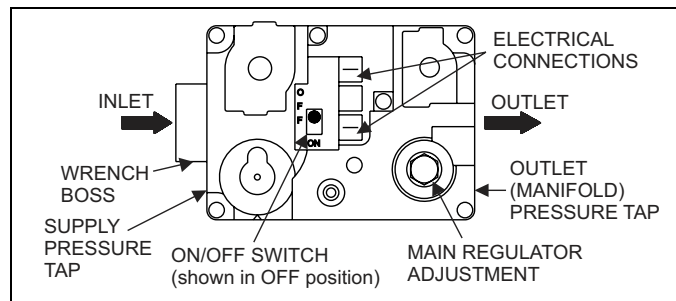

FIGURE 28: Gas Valve - GR Models Only
Inlet and manifold gas pressure may be measured by connecting the "U" tube manometer to the gas valve with a piece of tubing. Follow the appropriate section in the instructions below. Refer to Figure 28 for a drawing of the locations of the pressure ports on the gas valve.
1. Refer to Figure 28 for location of pressure regulator adjustment cap and adjustment screws on main gas valve.